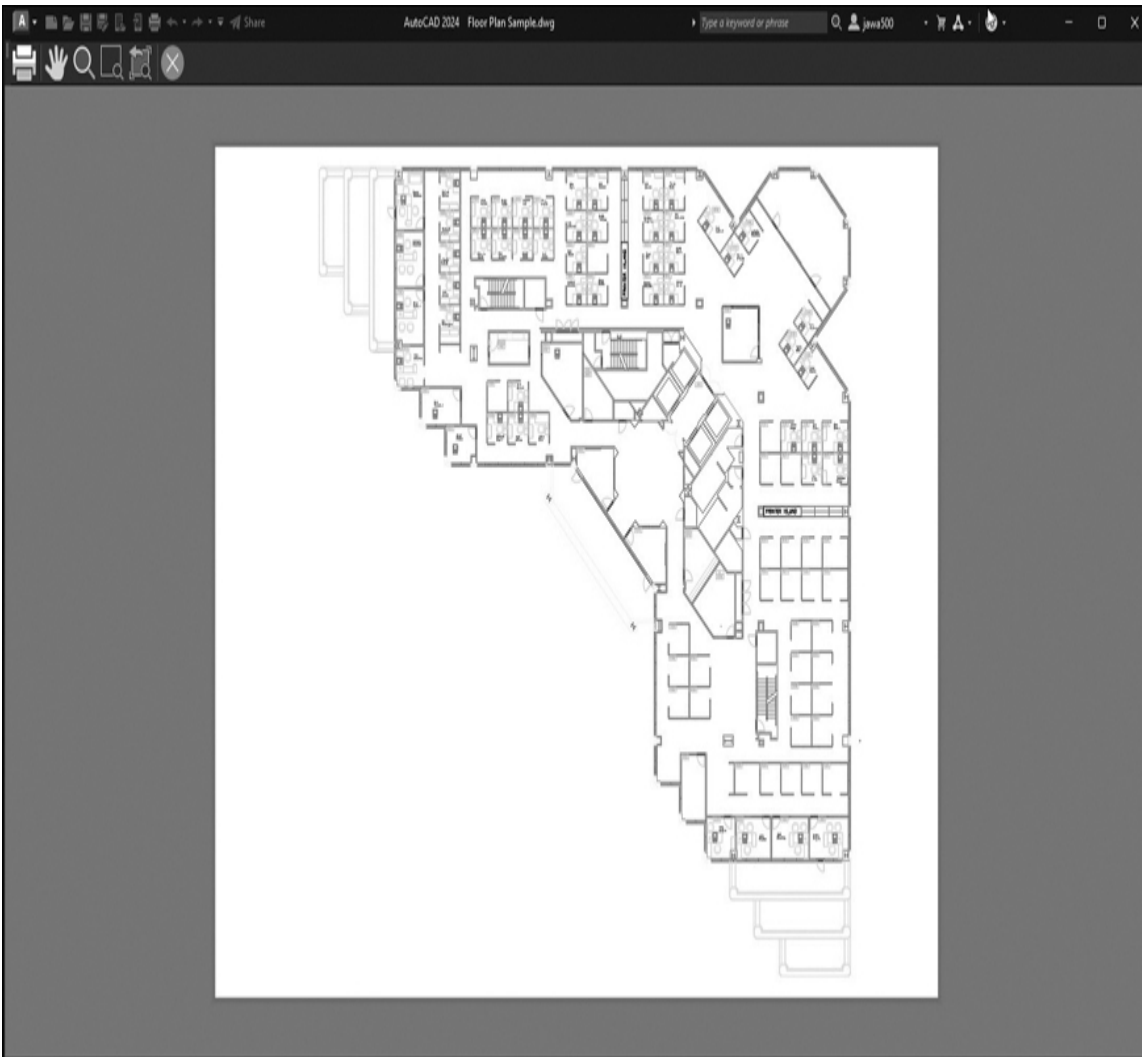

Figure 15-2
The **Preview...** button in the lower-left corner of the **Plot** dialog box allows you to see a preview of the final output before you commit it to paper. When you select the **Preview...** button, AutoCAD switches to plot preview mode (see Figure 15-2). In preview mode, the AutoCAD toolbars and pull-down menus are replaced with the **Preview** toolbar. These tools allow you to zoom in on and pan around the drawing to inspect it before you send it to the printer. If you are satisfied with the preview, you can choose the **Plot** button to send the drawing to the printer. Otherwise, you can choose **Cancel** to return to the **Plot** dialog box. The tools available in the **Preview** toolbar are also available in the **Preview Mode** right-click menu (see Figure 15-3).
- 8 AutoCAD will display the plot preview shown earlier in Figure 15-2. You can zoom and pan to examine the plot preview. When done, choose the **Close Preview Window** button to return to the **Plot** dialog box.